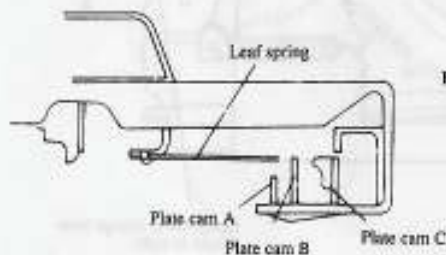

Fig. 21-2
- 2.1 By referring to Figure 21-2, adjust the tip of the leaf spring so as to be heightened to the same level as that of the plate cam B.